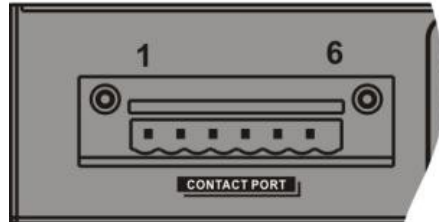

Fig. 1: Focus on contacts port.
The contacts port is formed using six (6) pins numbered from left to right (see fig. 1), which can be connected to an external monitoring system (such as a BMS) in order to monitor the operational status of the ATS 16.